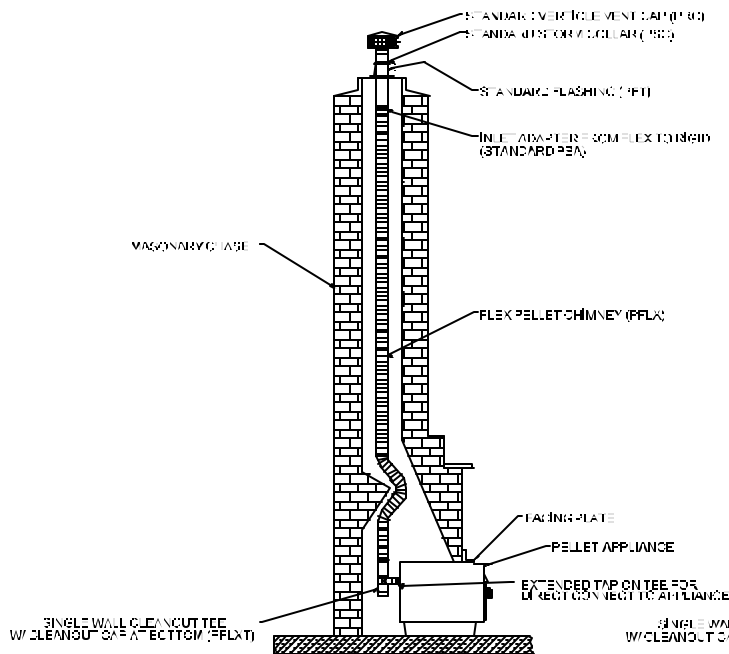

FIG. 1
1. If the stainless steel chimney liner is to go from the appliance outlet or tee to near the top of the masonry, then the required length can be determined using a weighted rope (See **Fig. 1 and 2**).